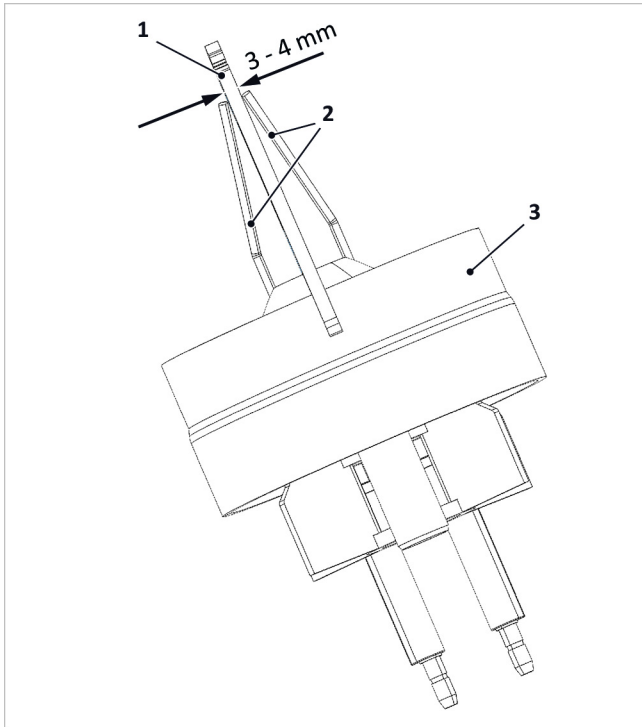

Fig. 58: Checking the ignition electrode gaps
5. Check the electrode gaps as shown in the → Fig. 58 and correct them by carefully bending them, if necessary.